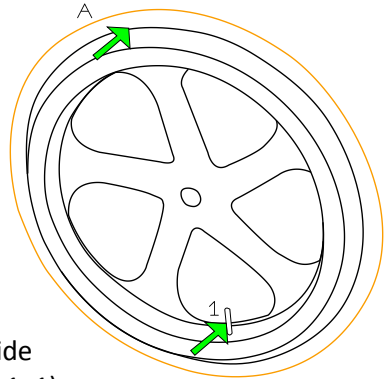

Figure 6
- Locate the valve and the side opposite it (Fig 6, A).